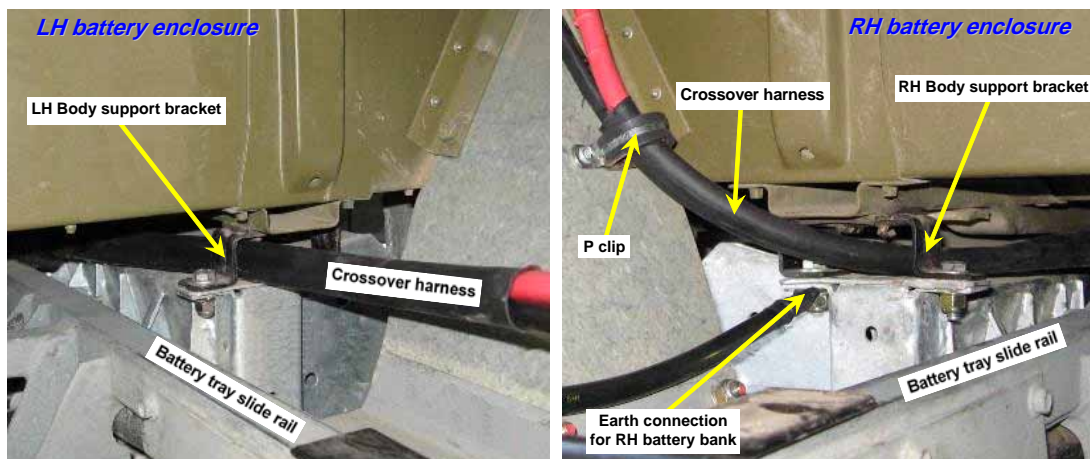

Figure 33 Crossover Harness Routing and RH Earth Link Connection
- (1) Working from beneath the centre of the vehicle, position the conduit section of the crossover harness (Table 1, Item 60) centrally along the cross-member just forward of the rear stabiliser bar with the 6 mm lugged ends facing the right side of the vehicle. Route the sleeved ends of the harness along the cross-member and into the side battery enclosures through the body support brackets as shown in Figure 33.
- (3) Remove the rear bolt and nut from the body support bracket and clean the chassis metal around the underside of the bolt hole. Refit the bolt, fit the 8 mm terminal lug on one end of the earth link cable (Table 1, Item 61) so that it makes good contact with the chassis and then refit and tighten the nut as shown in Figure 33.